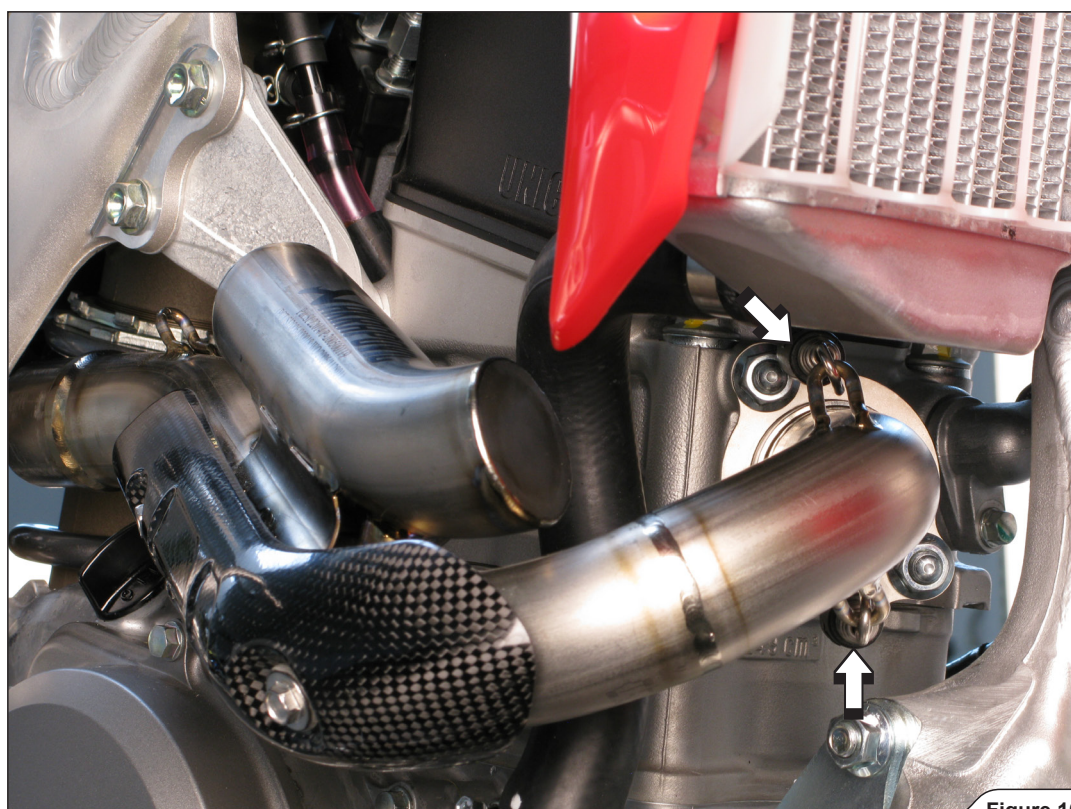

Figure 10
4. Insert the header tube into the sleeve, attach the springs and tighten the nuts to a specified torque (**Figure 10, 11**).